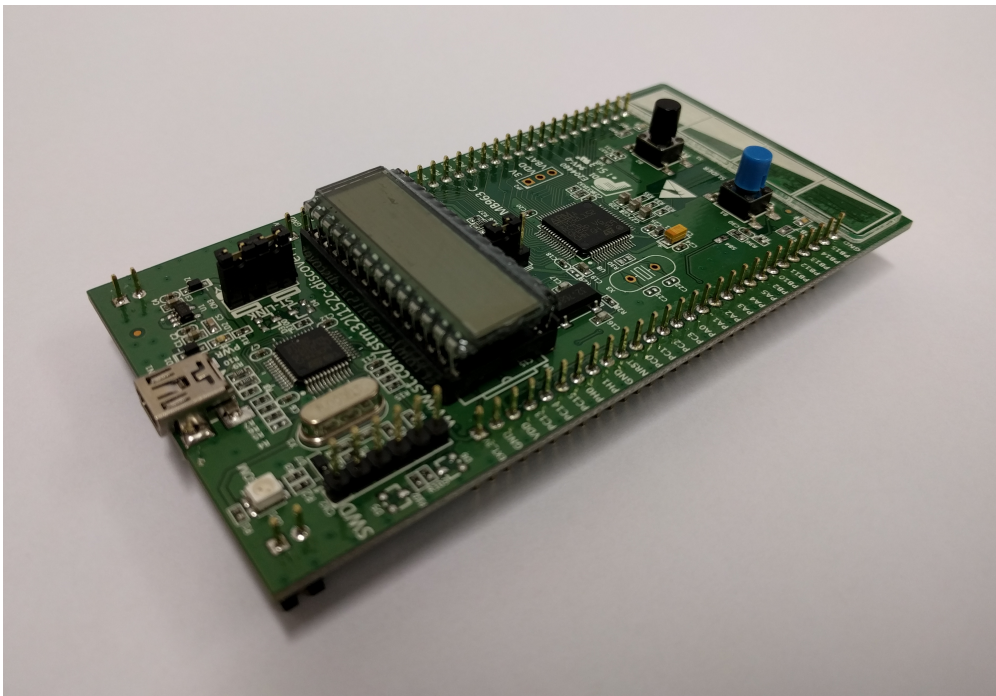

Figure 2: A STM32L1 target platform.
- (b) We have a stock of Cortex-M3 based STM32L1 Discovery⁴ development boards. Although Figure 2 at least hints the board is simpler than the PB-A8, there *are* two complicating factors wrt. using it: a) the Cortex-M3 processor has a somewhat different interrupt handling mechanism than the Cortex-A8, and *only* supports the Thumb instruction set, and b) support for these boards in the lab. is limited so, realistically, you will need to install the development tools⁵ *yourself*. Provided you are willing to accept these challenges, the goal is to port your existing kernel and have it execute on this physical target platform. *Iff.* you are interested in doing so, you will need to contact the lecturer responsible for this coursework in order to reserve and collect a board.